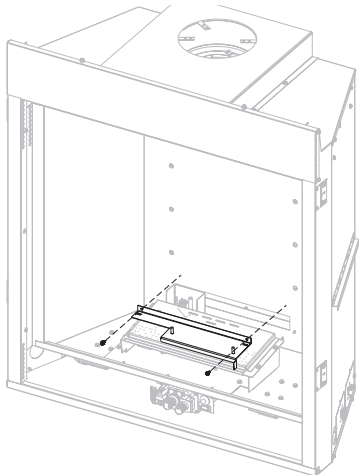

Figure 8
8. Remove log support by unscrewing two screws securing the metal plate to the log support. Retain log support and screws for reassembly. **See Figure 8.**
13. Reinstall the log support and secure it with metal plate and two screws removed in step 8. **See Figure 8.**